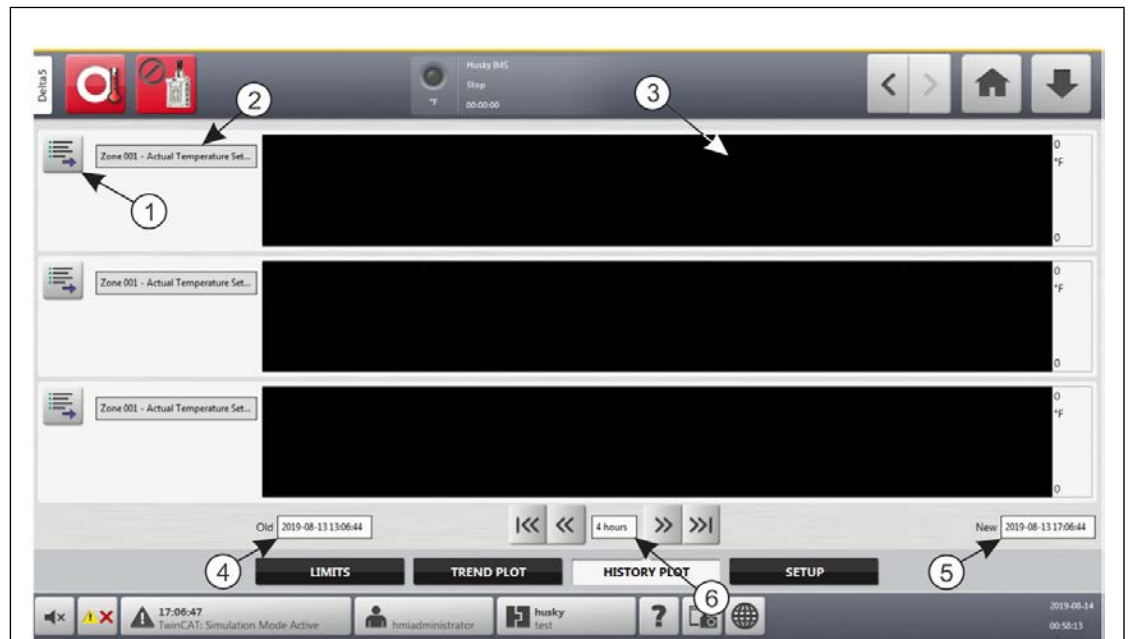

Figure 12-3 History Plot Screen
To see the History Plot screen, touch the **Process Monitoring** button on the Home screen and then touch the **History Plot** tab. Refer to Figure 12-3.
3. On the History Plot screen, touch the **Timeframe** field. Refer to Figure 12-3.
The Old and New date and time range fields are identified in Figure 12-3.
1. On the History Plot screen, touch the **Variable Selection** button of the zone or process to be changed. Refer to Figure 12-3.